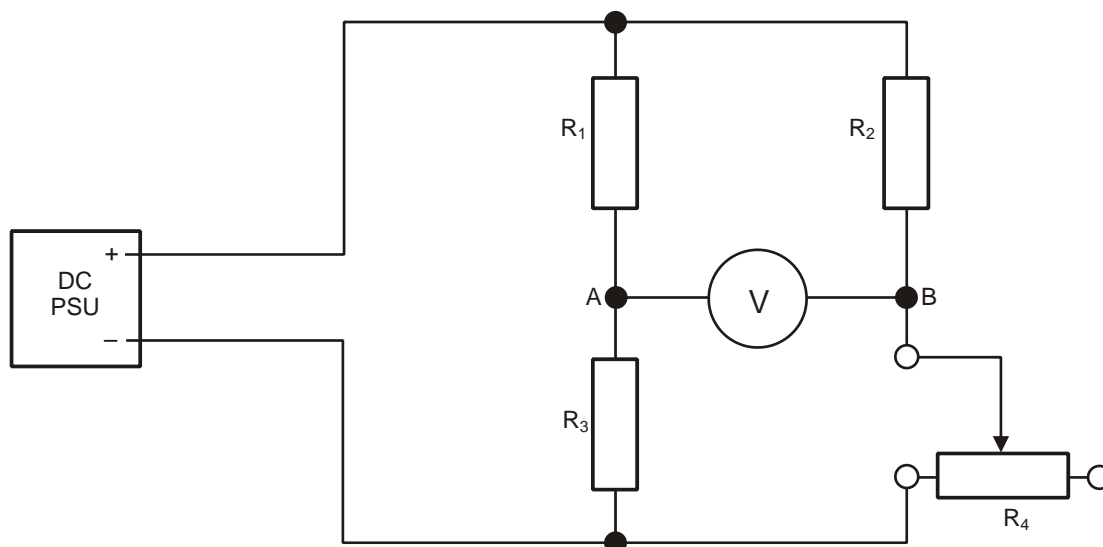

Figure 43
- a. Connect up the circuit as shown in figure 43, using the first line of resistors indicated in Table 10. R_4 is a $10k\Omega$ potentiometer.